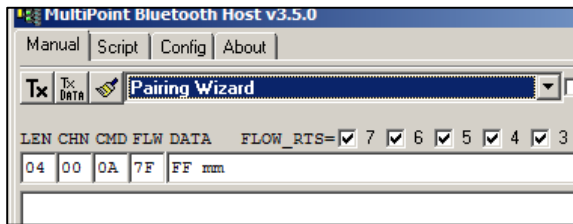

Figure 49: Select Pairing Wizard
- From the drop-down list, select **Pairing Wizard** (Figure 49).